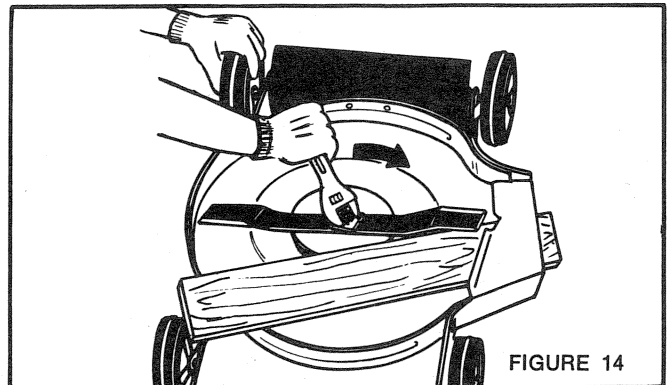

FIGURE 14
5. When replacing sharpened or new blade on shoulder of upper blade insulator, make sure cutting edges of the blades are closest to ground. Place lower insulator washer over shoulder of the upper blade insulator, sandwiching blade in between. Now place blade spacer and the blade nut on the shaft. Position wood to keep shaft from turning (Figure 14) and then securely tighten blade nut. (If square blade spacer starts to turn with nut, use a second wrench to hold spacer and keep shaft from turning).